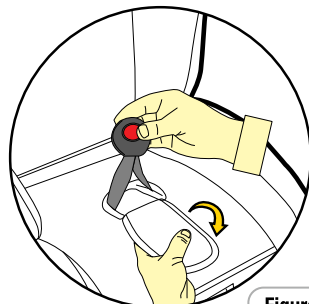

Figure 2
Step 2: Fold the rear of the restraint's base cover and foam forward to expose the seating surface of the base (refer Figure 2).
Fully extend the seat belt and pass the lap and sash sections of the vehicle belt under the first armrest, across the restraint base ensuring you pass the seat belt beneath the tongue in the plastic moulding (refer Figure 4 & 5) then under the second armrest, "**CLICK**" the buckle tongue into the buckle (refer to Figure 2, 3 & 4).